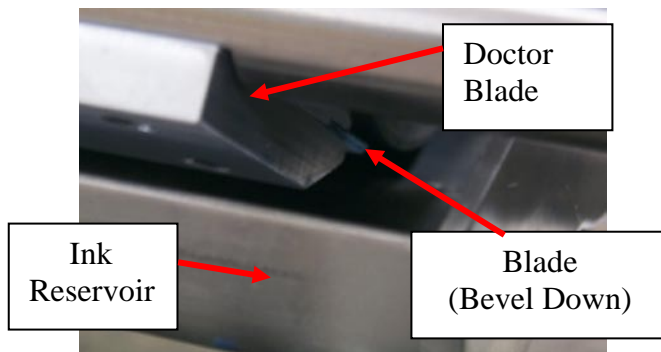

Figure 17-The Open Doctor Blade
3. Loosen the doctor blade adjustment lock handle, and verify that the doctor blade is positioned properly against the anilox roll. This is accomplished by moving the adjustment handle until the doctor blade carrier is against its stop pin and then lock it in place (Note: the doctor blade must be clamped in the carrier with the blade bevel positioned as shown in Figure 17, with the bevel facing “down” toward the Inkwell pan).